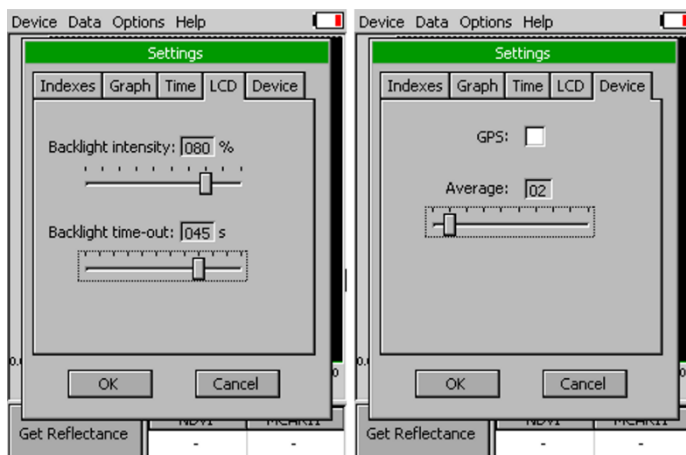

Fig. 10 Settings – LCD and Device
- **LCD** – is used to adjust LCD display control settings (Fig. 10).
- **Average** – Average function is used for adjusting the number of scans for each reading. Averaging of more scans results in a higher signal-to-noise ratio but increases the time required for each reading that appears on the screen. Move slider to set the number of measurements to be acquired for averaged values (Fig. 10). Data are affected.
- GPS – enables the GPS module (Fig. 10). The GPS coordinates cannot be displayed at the device display, but they are exported together with data and visualized in SpectraPen software.